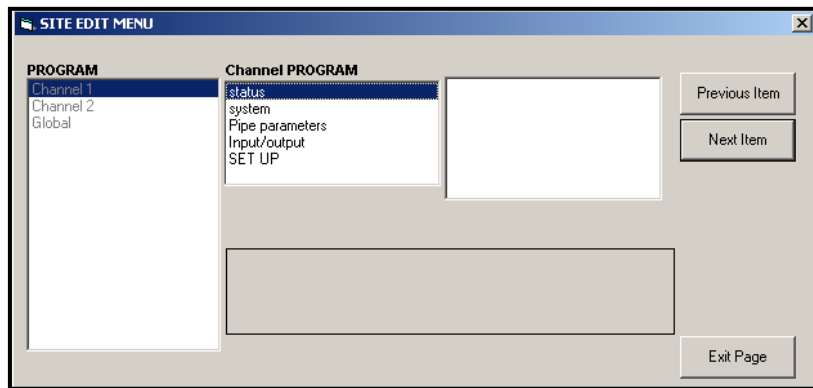

Figure 41: The *Site Edit Menu* Window
3. To enter data into the user program, double-click on the *Site Edit Menu*. The window appears similar to Figure 41.
PanaView returns to the Channel PROGRAM menu shown in Figure 41 on page 91. Proceed to the System option.
- If you are not using Mass Flow, PanaView returns to the Channel PROGRAM window shown in Figure 41 on page 91. Proceed to the Pipe option.
PanaView returns to the Channel PROGRAM window shown in Figure 41 on page 91. Proceed to the Pipe option on the next page.